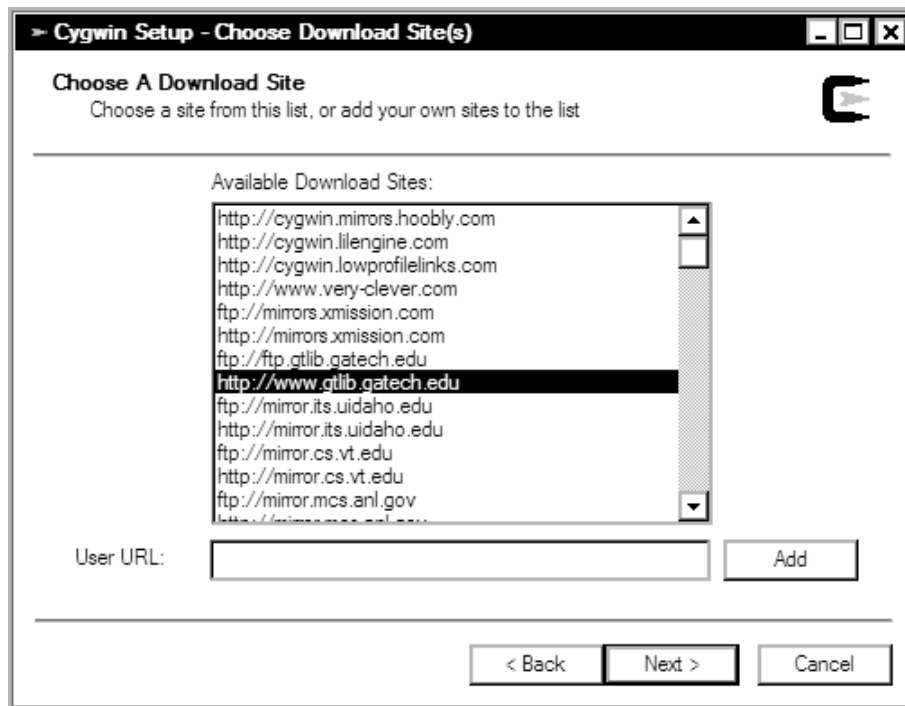

Figure 2-5. *Cygwin installation: selecting a download site*
8. Choose a download site (see Figure 2-5). The Cygwin project uses a collection of mirrors to host the binaries for installation, to conserve on bandwidth and give users around the world better download times. Pick a mirror close to you. I'm partial to .edu sites, because they typically have great bandwidth in the U.S.